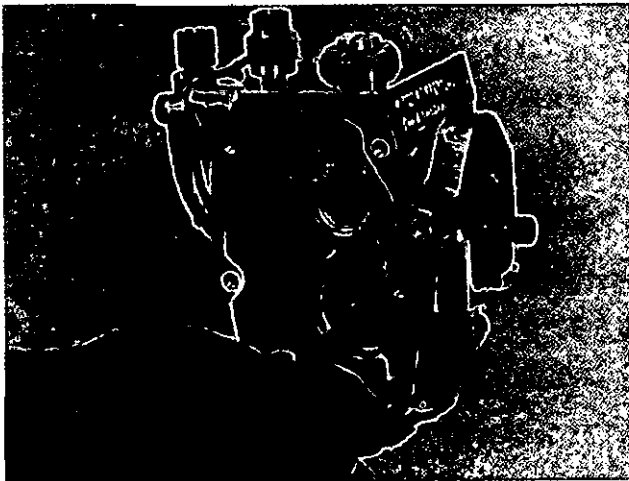

Fig. 8-13, (F566). Install the governor plunger.
1. Lubricate with engine oil and install the plunger into the barrel, Fig. 8-13. Make sure the